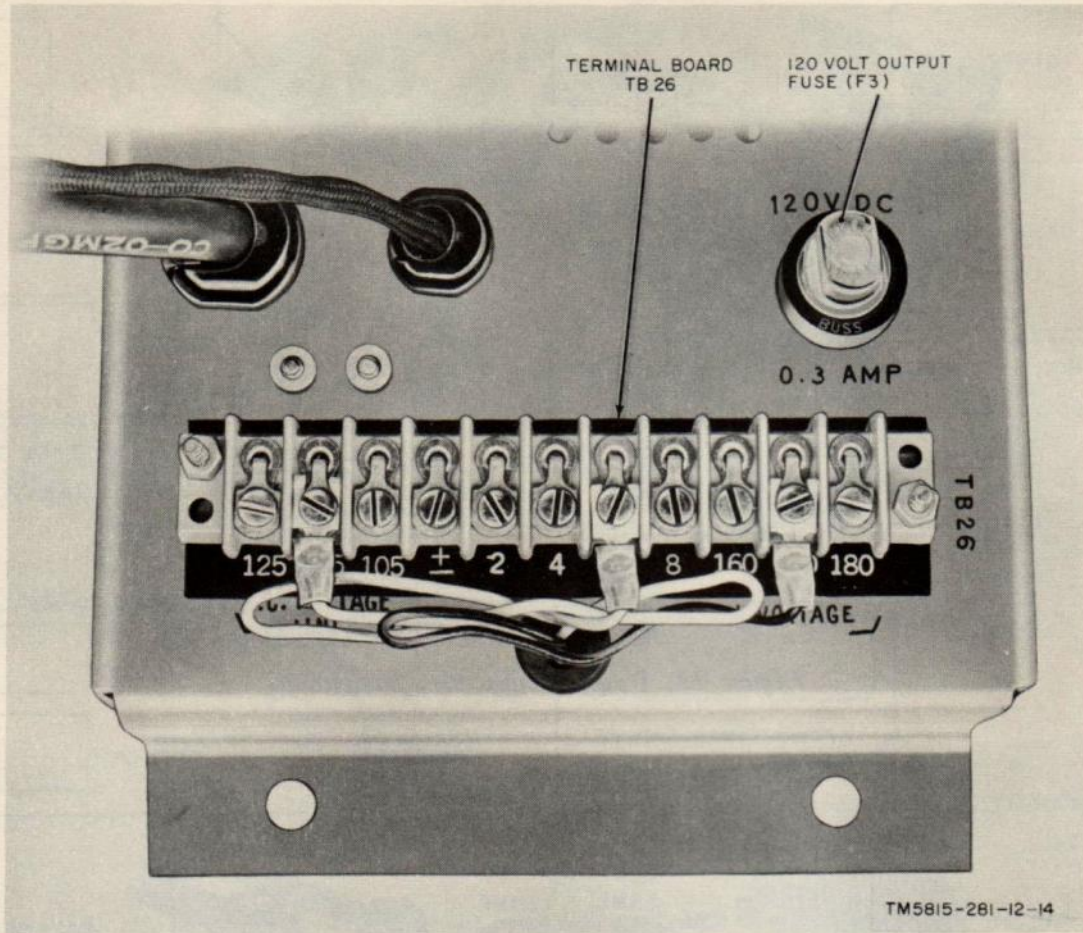

Figure 14. 120-volt power supply fuse location.
- (1) Remove the cover from terminal board TB26 (fig. 14) on the 120-volt power supply.
- (2) Move the power switch of the control base to the PWR position.
- (3) Remove jack J55 from plug P55 and check the ac voltage output across the terminals of jack J55. Leave the jack disconnected from the plug while adjusting the primary transformer lead.
- (4) Check to see that the white (primary) lead on terminal board TB26 is connected to the terminal (105, 115, or 125) that corresponds most closely to the ac power source reading obtained as instructed in (3) above. Reconnect if necessary. If the reading falls at the midpoint between two readings, connect the lead to the higher-numbered terminal.
- (5) Connect jack J55 to plug P55 and disconnect jack J32 from plug P32. Use a voltmeter and check to see that the dc output of the power supply across terminals A and B of plug P32 is 120 volts. If the reading